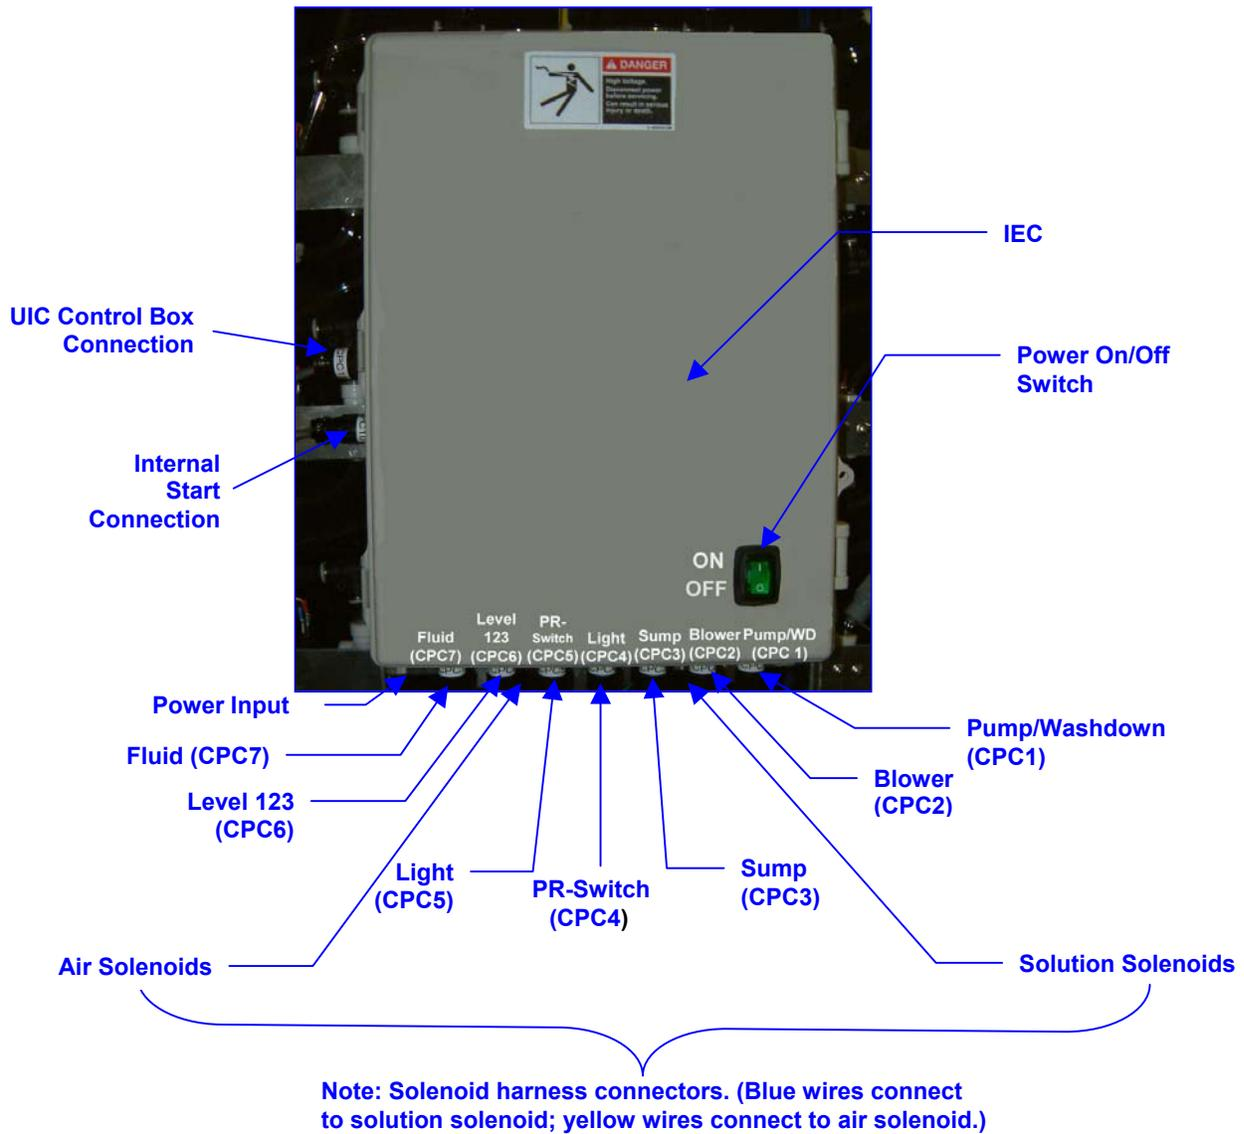

Figure 7: Location of IEC Connections & On/Off Switch
The MT3000's Integrated Electronic Controller (IEC) is located on the back of the MT3000. Figures 7 & 8 show where the controls/connections are located on the IEC, while table 2, page 11, describes their functions. Figure 9, page 12, shows an IEC component layout.
**Step 2.** Press the *Start* Button on (IEC). (See figure 7, page 10, for location.)